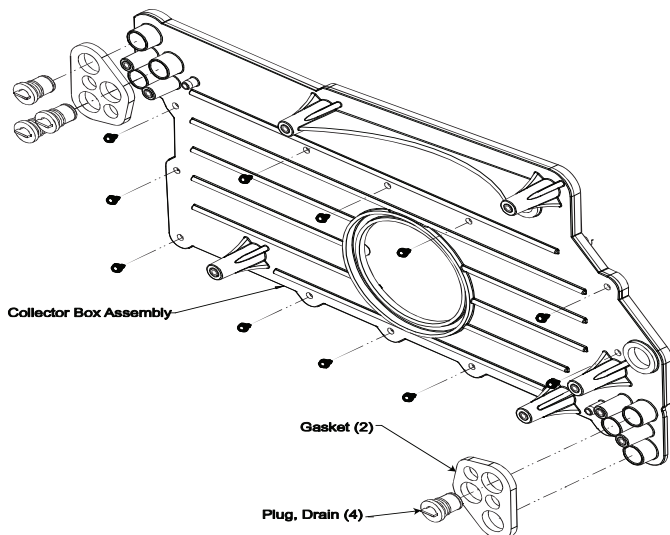

Fig. 4 – Collector Box Removal / Installation
1. Remove the screws that secure the collector box to the heat exchanger cell panel and set aside, see Fig. 4.